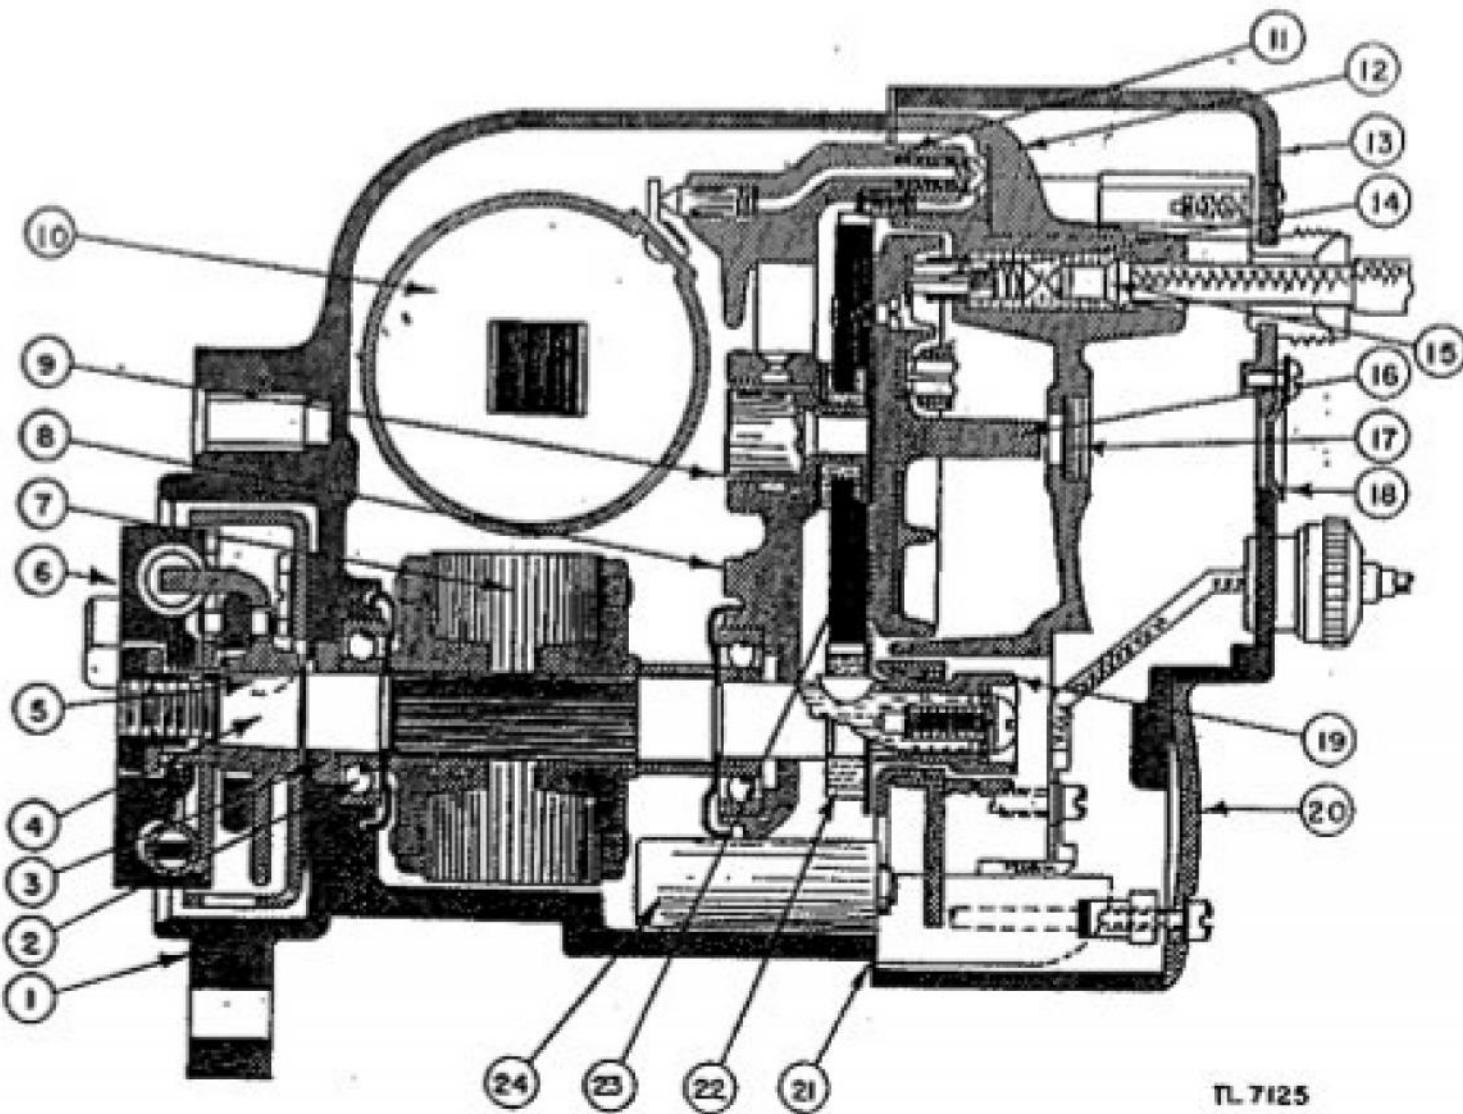

Figure 29. Longitudinal section through magneto.
(1) Check the load to be sure that the speed changes observed are not the result of load fluctuation.
(2) If the load is uniform, carefully check the engine to be sure that all cylinders are firing properly.
(3) See that the governor is properly installed; that no bind exists in any part of the governor control mechanism or the operating linkage between governor and engine; be sure that no bind exists in the fuel mechanism on the engine.
a. MAGNETO (figs. 29 and 30.) (1) Installation. The magneto, which produces an ignition spark only at certain definite points in the rotation of the magnet rotor (7), must be connected to the engine in such a manner that the spark is available at the instant it is required in the cylinder (about top dead center of the compression stroke, with the magneto set in the retard position.)